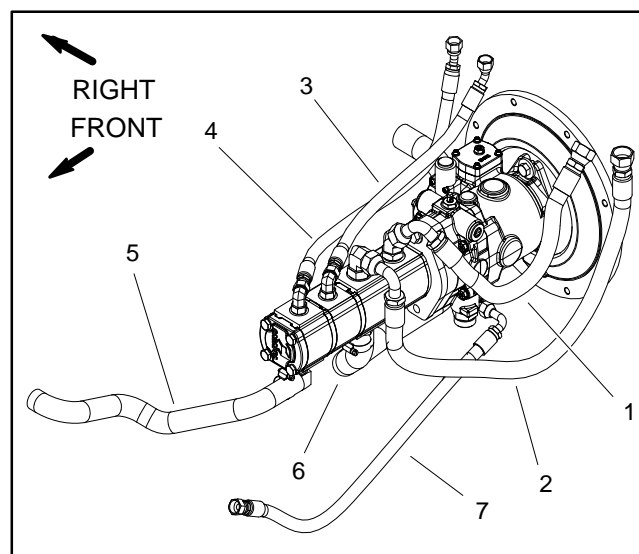

Figure 57
6. Put a drain pan below the pump assembly. Remove hydraulic hoses connected to piston and gear pumps. Put plugs or caps on disconnected hydraulic hoses and fittings to prevent contamination of the system (Fig. 57).
8. Support the piston pump to prevent it from falling while removing two (2) cap screws and washers retaining pump assembly to engine adapter plate. Carefully pull pump assembly from adapter plate and raise it out of the machine.